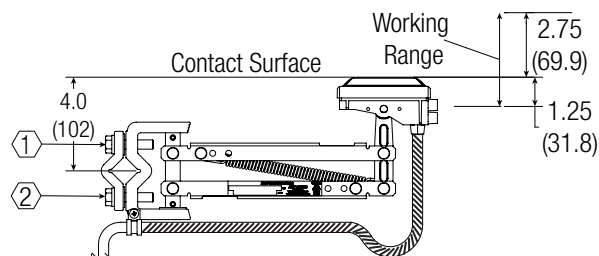

Figure: 17-1
### 17.0 XA-SL2C-100S-1M Single Collector - Figure 17-1
1. Attach collector mounting bracket to a suitable support at the correct setting height (see Figs. 17-1 and 17-2).
5. For customer installed cable on the collectors, there must be 18" for 100 amp and 19.5" for 200 amp of cable length from the exit of the cable clamp to the entrance of the collector head. Reference the striped cable sections of **Figures 17-1, 17-2, 18-1, 18-2.**